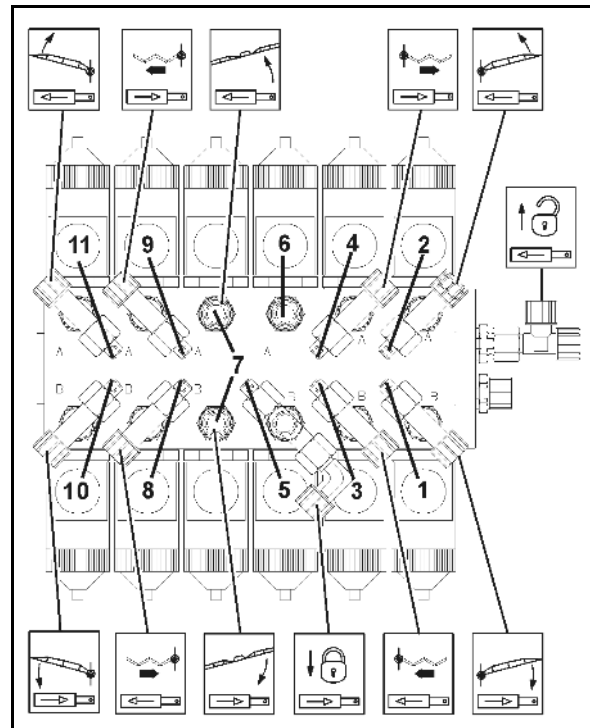

Fig. 199
2. Remove (Fig. 199/1) bolts.
3. Remove the valve cover (Fig. 199/2).
4. Remove the valve groups (Fig. 199/3).
5. Remove valve sealing ring (Fig. 199/4) and o-ring (Fig. 199/5).